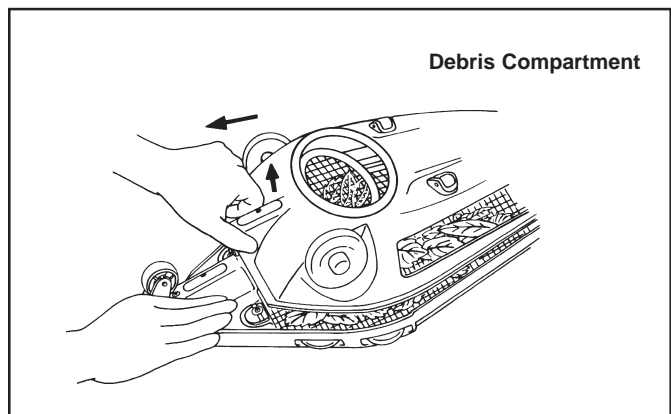

Figure 3. Remove Debris compartment
4. While holding the Ray-Vac head down, firmly grasp debris compartment cover. Pull the debris compartment cover up and away from the tail section to remove (see Fig 3).